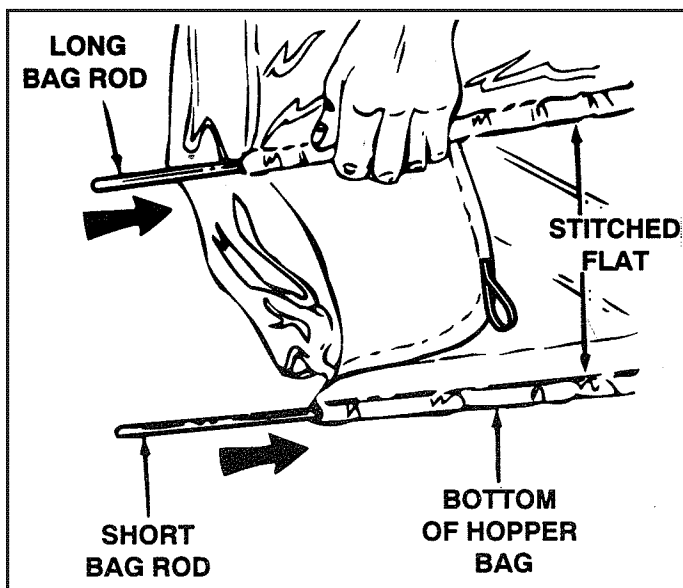

FIGURE 4
- Slide the long bag rod (28-1/2" long) through the stitched bag flap on the top of the hopper bag as shown in figure 4.
- Slide the short bag rod (25-1/2" long) through the stitched bag flap on the bottom of the hopper bag as shown in figure 4.